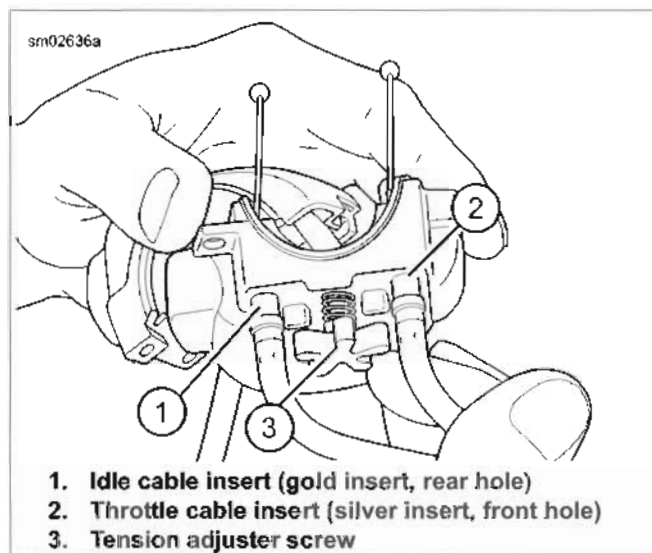

Figure 7-116. Right Lower Module Housing
10. See Figure 7-116. If replacing lower switch housing, pull inserts (1, 2) from lower switch housing. Use a rocking motion while pulling. Place a drop of light oil on the retaining rings, if necessary. Remove the cables from the switch housing.
2. Install retainer (1) with screws (3). Tighten screws to 8-10 in-lbs (0.9-1.1 Nm).
3. See Figure 7-116. If previously removed from lower switch housing, push the throttle and idle control cables into the lower switch housing until they snap in place. Note the different diameter inserts crimped into the end of the throttle and idle cable housings.
- a. Push the silver insert (2) of throttle cable housing into the hole in front of tension adjuster screw (3).
- b. Push the gold insert (1) of idle cable housing into the hole at the rear of tension adjuster screw (3).